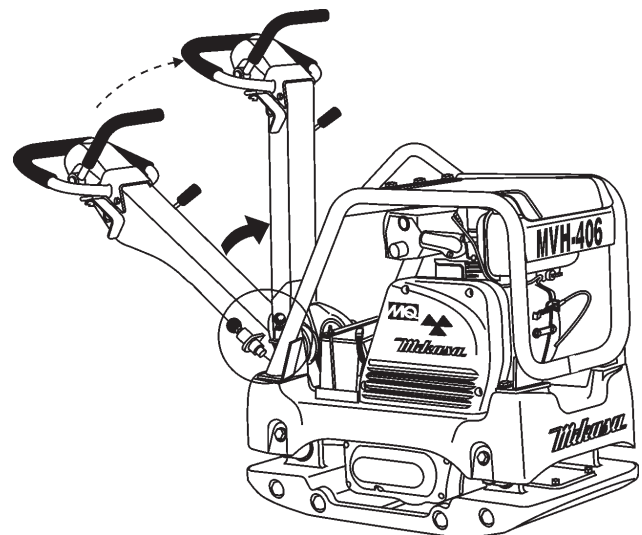

Figure 25. Stowing the Handle
- Push up the handle upward (Figure 25) until the handle locks in place.